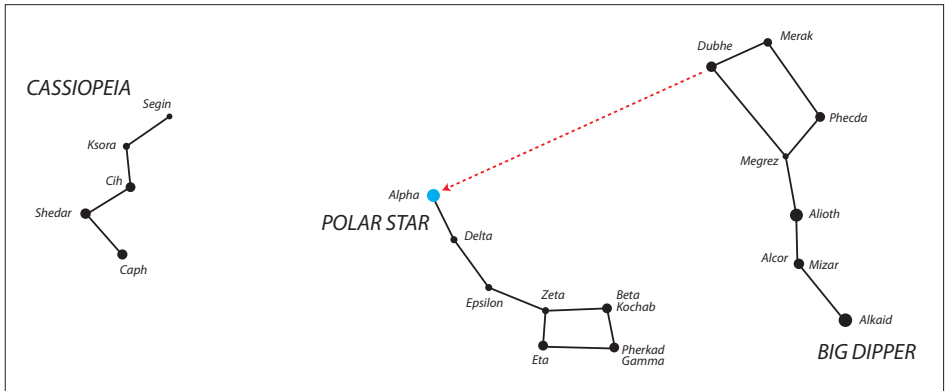

Fig. 2a
2. Draw an imaginary line from the bottom star (Merak) on this front edge through the top star (Dubhe) on the front edge. Follow the line to the first bright star you see. That should be Polaris (Fig. 2a).